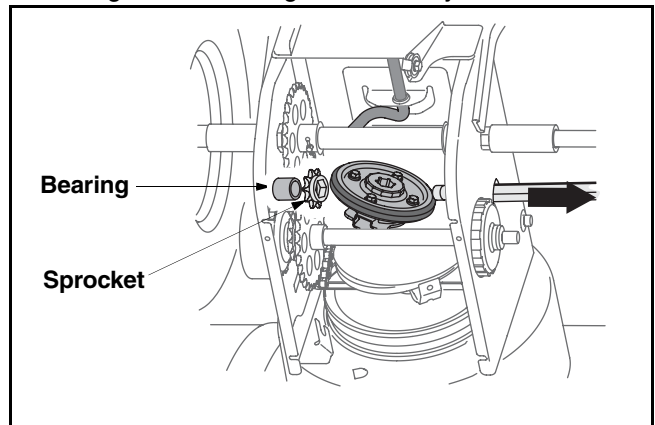

Figure 20
6. Holding the friction wheel assembly, slide the hex gear shaft to the right. See Figure 20. The spacer on right side of hex gear shaft may fall.